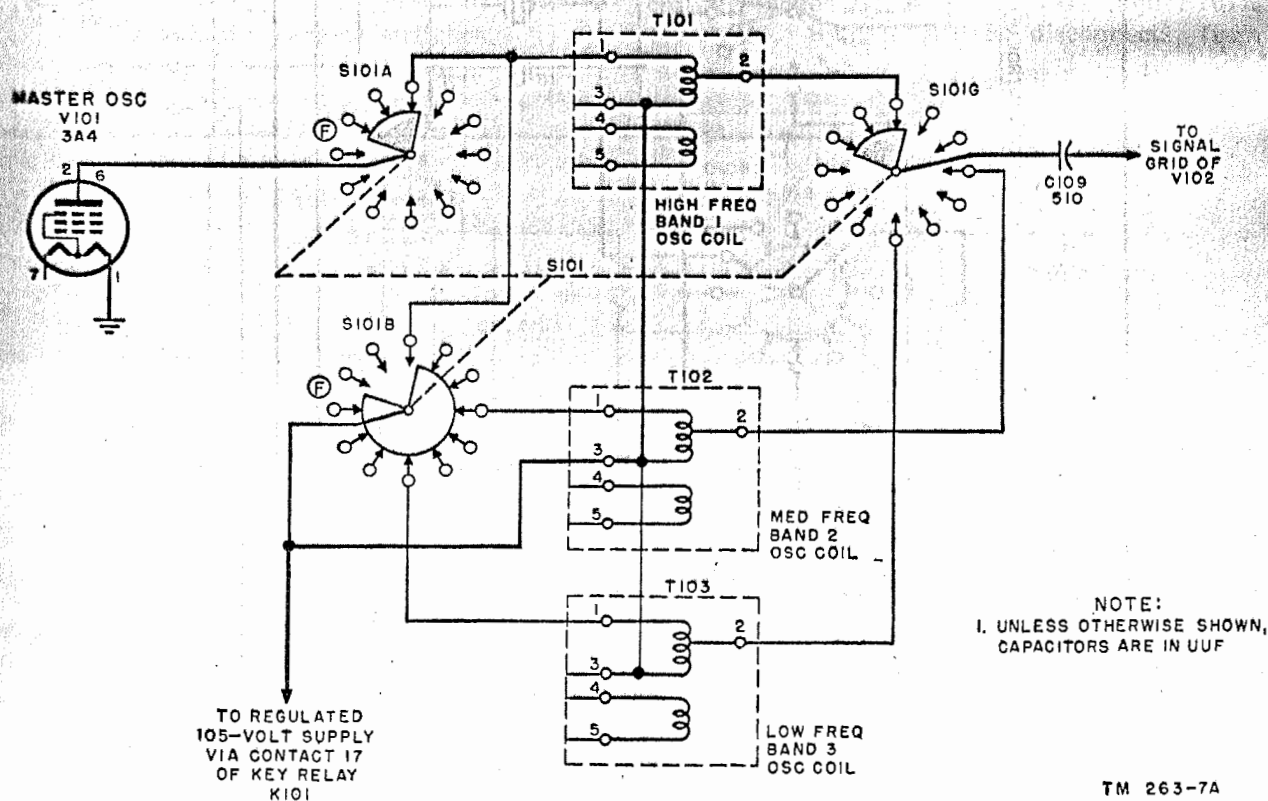

Figure 68. Master oscillator switch sections S101A and S101B.
(1) S101A (fig. 68). Section A of S101
determines which of the three plate circuit coils is to be used. Thus, should control © on the transmitter panel be turned to BAND 1, switch S101A would lead the plate current of tube V101 to the larger coil in transformer T101, and no other. This is shown by the weighted line in figure 68.
- (2) *S101B* (fig. 68). Section B of S101 shorts out the other unused plate coils so as to prevent interaction with the coil circuit being used; such interaction tends to cause undesirable parasitic oscillations.
- (5) *S101E*. The rotor of section E is permanently connected to ground and serves as the actual ground connection for the coil selected. It also shorts out all or any crystals that are not in use.
- (6) *S101F*. Section F of S101 connects the selected coil to the grid of tube V101 through capacitor C105.
- (7) *S101G* (fig. 68). Section G of S101 connects oscillator voltage from the plate coil in use to the signal grid of the voltage doubler V102.